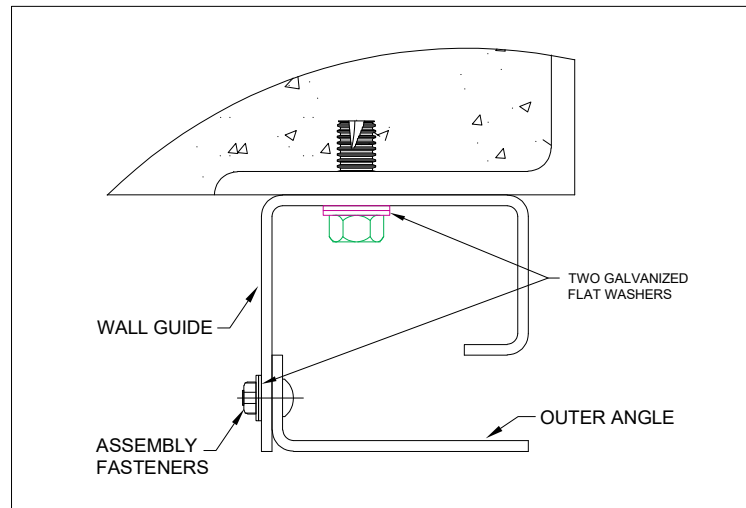

FIGURE 8
- f. Outer angle is attached to the wall angle using two galvanized flat washers as shown in Figure 8.
- j. Tighten guide assembly fasteners securely with two heavy galvanized washers per bolt as shown in Figure 8.
- e. Engage tension wheel drop arm at this time and fix tension wheel securely. Rig cable as shown in figure 8.